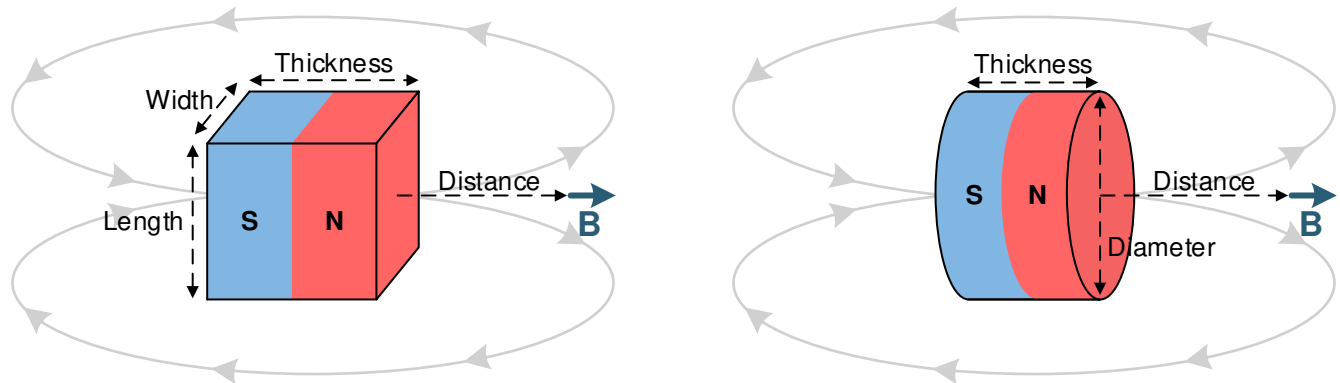

図 7-3. Rectangular Block and Cylinder Magnets
Magnets are made from various ferromagnetic materials that have tradeoffs in cost, drift with temperature, absolute maximum temperature ratings, remanence or residual induction (B_r), and coercivity (H_c). The B_r and the dimensions of a magnet determine the magnetic flux density (B) produced in 3-dimensional space. For simple magnet shapes, such as rectangular blocks and cylinders, there are simple equations that solve B at a given distance centered with the magnet. 図 7-3 shows diagrams for 式 4 and 式 5.
Use 式 4 for the rectangular block shown in 図 7-3:
Use 式 5 for the cylinder shown in 図 7-3: